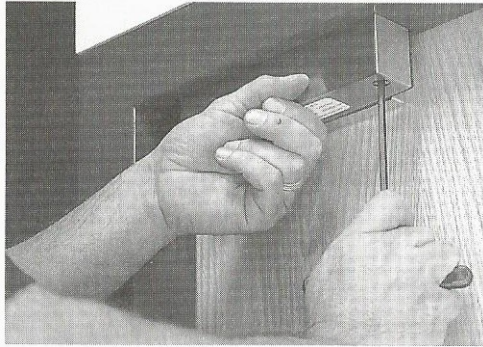

Figure 17. Installing the Magnalock
3. MOUNT lock body to frame using supplied hardware (see Figure 17, "Installing the Magnalock").